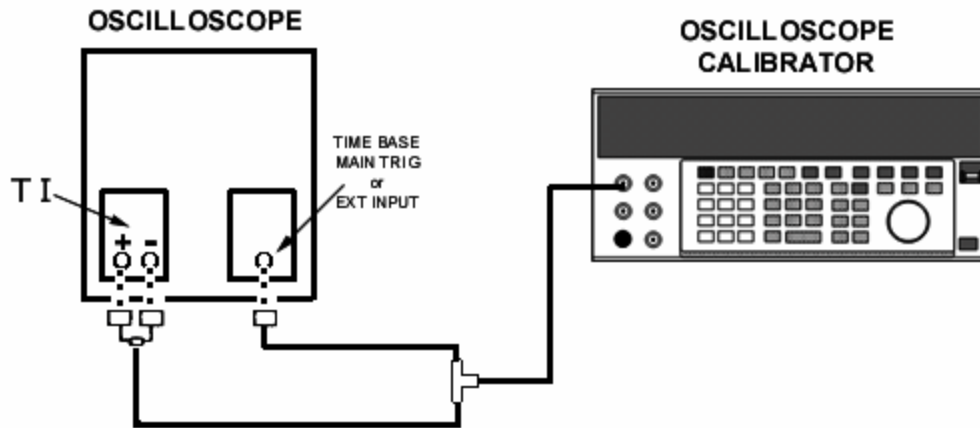

Figure 4. Differential balance - equipment setup (Type 7A22).
(1) Connect equipment as shown in figure 4.